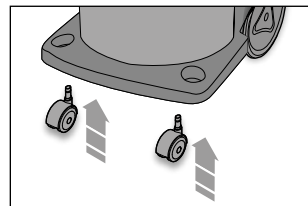

Fig. 3
- Insert the castor wheels (R) into the appropriate housings positioned on the front part of the vacuum and block them by pressing them in until a click is heard (FIG. 3).